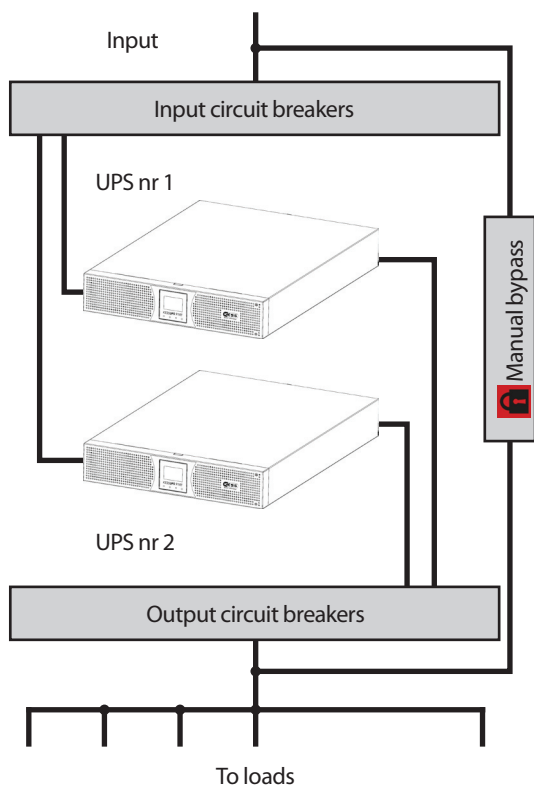

Fig. 16. Parallel installation of two KESSUPS 91RT UPSs from 4 to 10 kVA, with protection and manual bypass panel.
- The installation of the parallel systems, has to be provided by a switchgear panel with individual protections for input, output and static bypass (this last one, in those installations that uses the second line only), also a manual bypass with mechanical lock, see figures 16 and 17.
- Figures 16 and 17 shows a manual bypass panel for a parallel system, in a conceptual way (4 to 10kVA models only), valid for a single equipment by adapting the quantity of switches.